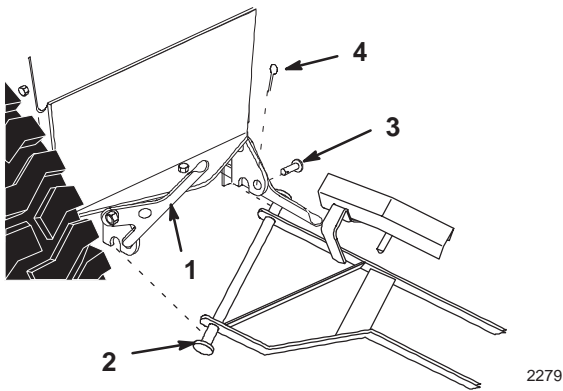

Figure 16
2. Position tiller behind and under rear tractor hitch with idler pulley bracket above right latch lever. Lift latch levers and install frame mounting rod. Center tiller between hitch latches (Fig. 16).
3. Secure latch levers closed with clevis pins and hairpin cotters (Fig. 16).